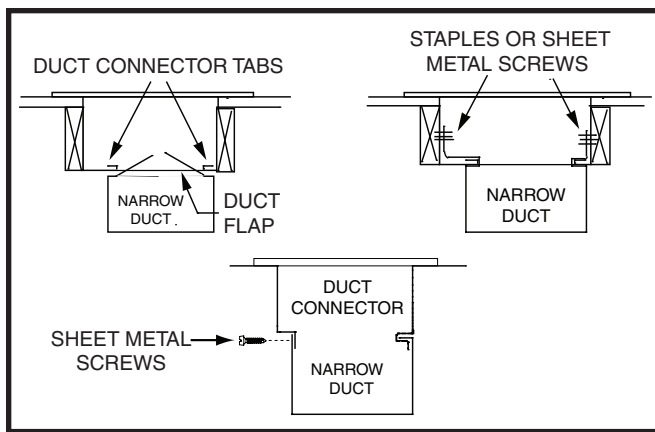

Figure 8. Narrow Ducts
- Bend the tabs on the bottom of the duct connector upwards and as tight as possible against the supply air duct. See Figure 8 \(page 8\).